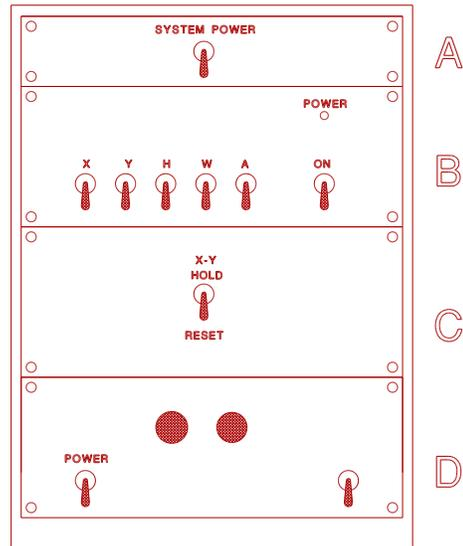

Figure A.2 : Mann 1600A/2600 Switch Locations
With reference to Figure A.2, perform the following steps :
- [11] Refer to Figure A.2 to check your installation. Leave the rack open for the upcoming testing and move to the PC. When the testing is complete, the rack of PG electronics may be pushed back into place.